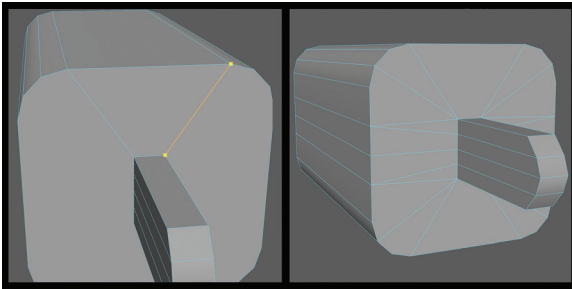

FIGURE 1.23 Using the Multi Cut tool to create new edges to rebuild the N-Gon into three- or four-sided polygons.
Step 21: Fix N-Gon. An N-Gon is any face with more than four edges. This can be a problem in 3D because it is unclear how the face should be divided into triangles for the rendering process. This can sometimes yield undesired output at the time of rendering. So it's best to rebuild N-Gons to either four-sided polygons (quads) or triangles. The big back face is a typical N-Gon. Switch to Multi Cut tool, and click and drag on one of the outer edges until it stops at one vertex. Click and drag on one of the inner edges until it hits another vertex. Maya will connect these two vertices with a new edge. Press the G button to commit the current operation and re-initiate the same tool again. Keep clicking and dragging to connect lines until there are no N-Gon anymore (Figure 1.23).